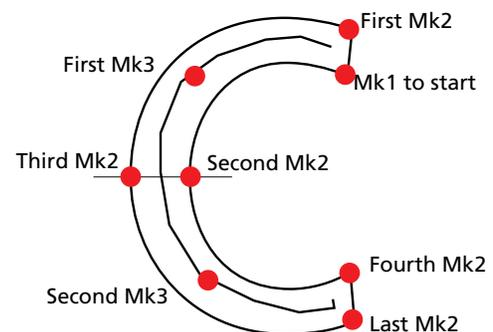

Figure 3-22
Make the upper half one arc; and the lower half a second arc. To plot the letter **c** for the first method of digitizing a column on an arc, refer to Figure 3-22 and with a pencil, mark the indications like the illustration.
1. Go to the start of the inside line of the top of the letter c and enter the Mk1 to start (see Figure 3-22).
2. Now enter the first Mk2 at the start of the outside line of the top of the letter (see Figure 3-22).
3. We have previously plotted the letter into two arc segments since the circumference of the letter c is more than 180 degrees rotation. For uniformity, we made the segments equal, divided at the mid-point of the letter. Therefore, we will want to enter the first Mk3 (for the first column on an arc) in the middle of the column and half way around to the middle of the letter (see Figure 3-22). Notice that the Mk3 is defined by the specific rule for method one.
4. Enter the second Mk2 to define the end of the inside line of the column at the midpoint of the letter (see Figure 3-22).
5. Enter the third Mk2 to define the end of the outside line of the column at the midpoint of the letter (see Figure 3-22).
6. Enter the second Mk3 in the middle of the column, mid-way around the bottom portion of the letter **c**, in the middle of the letter (see Figure 3-22). Again notice that the Mk3 is defined by the specific rule for method one.
8. Finish the column definition with the final Mk2 at the end of the outside line of the arc (see Figure 3-22).